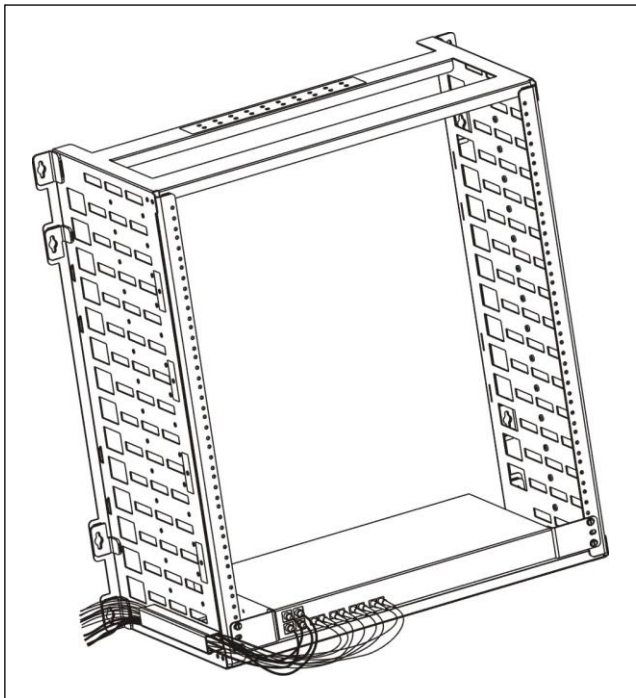

Figure 9. Cable guide application
- ② Groom cabling from the front of the chassis to the wall through the cable guide on the side of the WR-15U23, as shown in Figure 9, and replace the sliding cover.